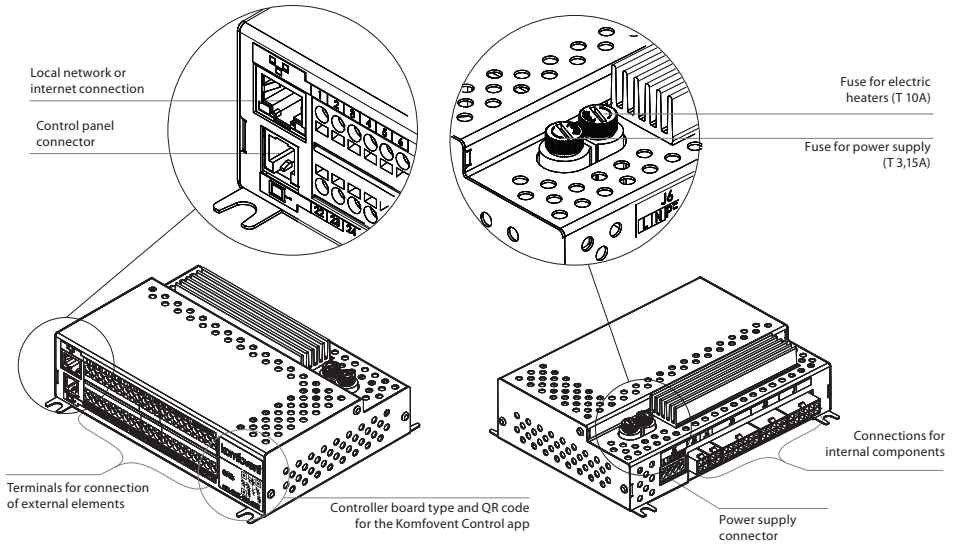

Fig. 13. C6M controller main board
- The terminal numbering shown here only applies for C6M controller board. Before connecting the external elements, check the board type on the sticker in the front of the controller (see Fig. 13).
It is advisable to run the control panel cable in such a way that it does not go near the power supply wires or high voltage electrical equipment (electrical inlet cabinets, electric water heating boiler, air conditioning unit, etc.). The cable can be passed through the holes in the back or bottom of the control panel (follow the installation instructions supplied with the control panel). The wire to C6M controller board is connected to a dedicated slot (RJ9 connector; see Fig. 13) or to the terminals for external connections.
The unit can be controlled not only by the control panel, but also by computer or smart phone. In such cases, the air handling unit must be connected to an local computer network or to the Internet. The unit is controlled by a computer using a web browser, or a smartphone with a Komfovent Control app. The air handling unit is connected to the computer network with a CAT5 type cable (RJ45 connector; see Fig. 13). The total cable length between the unit and the network router must not exceed 100 m.
- The easiest way to manage your unit over the internet is to use a smartphone with the Komfovent Control app. Launch the app on your phone (the phone must have Internet access). When you connect for the first time, the app will ask you to scan the QR code at the front of the controller board (see Fig. 13). When you scan the code, the app will automatically establish the connection to the unit (for more information on the Komfovent Control app, see "Domekt User Guide").